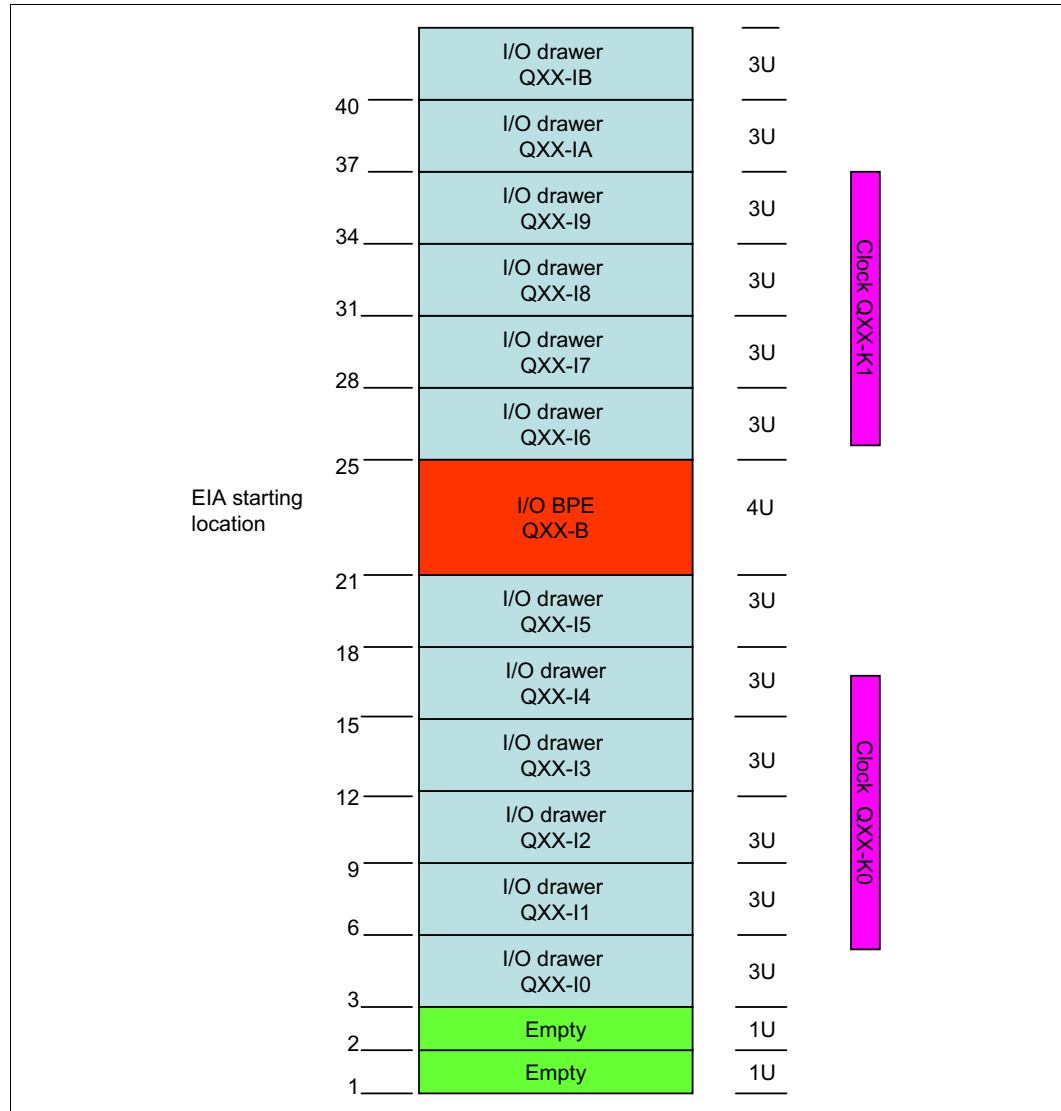

Figure 3-8 I/O rack population for below-floor cable management
Perform the following steps to install the I/O rack for below-floor cable trays. See Figure 3-8 on page 61 for information about the labels in this procedure:
Figure 3-8 shows the rack drawer positioning for below-floor cable management.
4. Install the I/O drawer Qxx-16 and then install the rest of the upper I/O drawers. See Figure 3-8 for information about the rack drawer positioning. Install the cable management arms and interlock brackets.